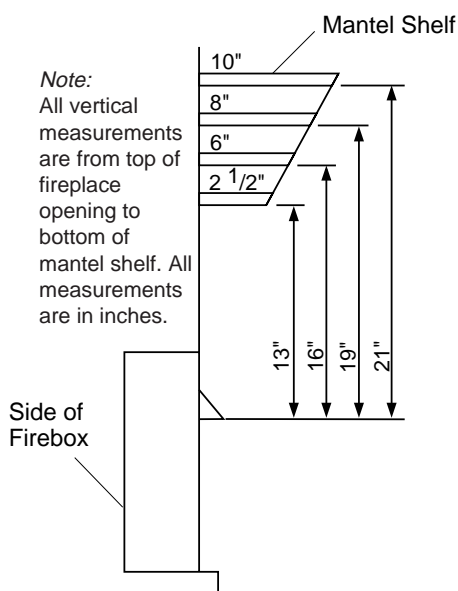

Figure 11 - Minimum Mantel Clearances for Built-In Installation
C. For mantel clearances, see Figure 11 on page 10.
Built-in installation of this fireplace involves installing fireplace into a framed-in enclosure. This makes the front of fireplace flush with wall. An optional brass trim kit accessory is available (see *Accessories*, pages 28 and 29). Brass trim will extend past sides of fireplace approximately 1/2 inch. This will cover the rough edges of the wall opening. If installing a built-in mantel above the fireplace, but you must follow the clearances shown in Figure 11, page 10. Follow the instructions below to install the fireplace in this manner.